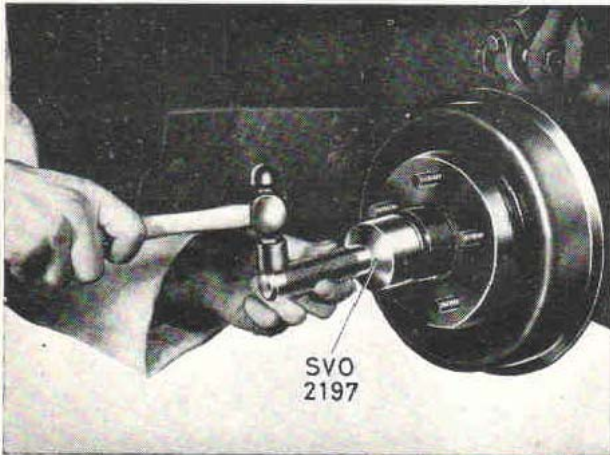
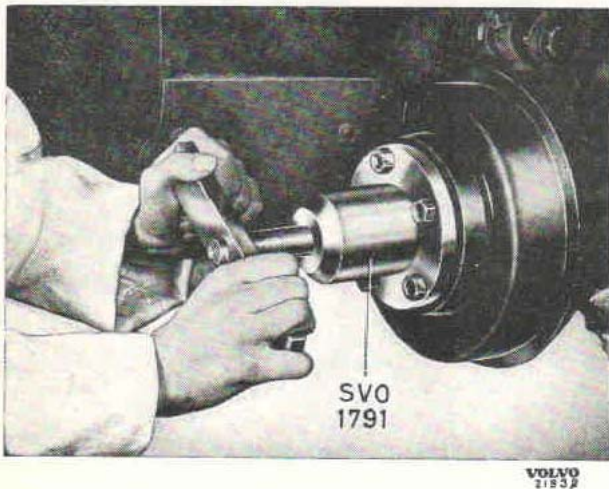
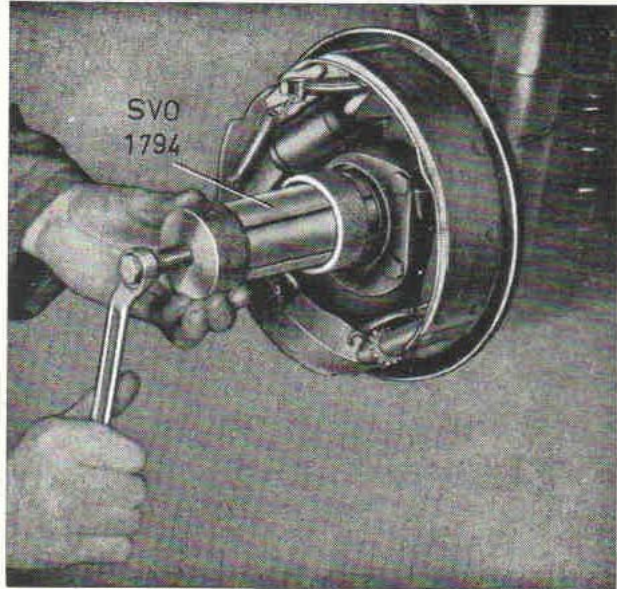

Fig. 14. Removing the grease cap.
Fig. 15. Removing the hub.
Fig. 16. Removing the inner bearing.
2. Remove the grease cap with tool SVO 2197, see Fig. 14. Remove the split pin and castle nut. Pull off the hub with tool SVO 1791, see Fig. 15. If the inner bearing does not come out, pull it off the stub axle with tool SVO 1794, see Fig. 16.
2. Release the handbrake. Remove the split pin and castle nut. Pull off the hub with tool SVO 1791, see Fig. 15.
2. Remove the grease cap with tool SVO 2197, see Fig. 14. Remove the split pin and castle nut. Pull off the hub with tool SVO 1791, see Fig. 15. If the inner bearing does not come out with it, pull this off the stub axle with tool SVO 1794, see Fig. 16.